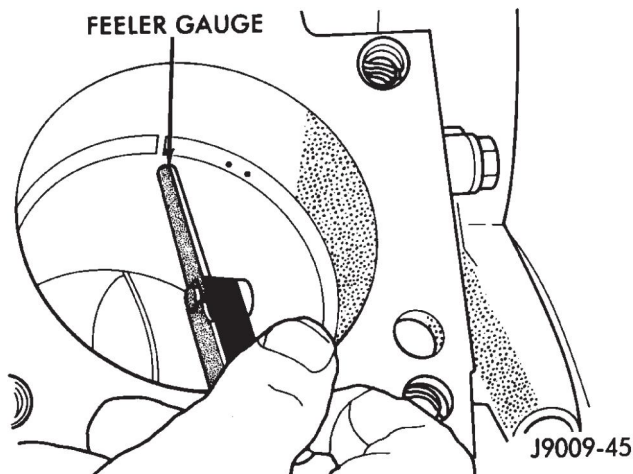
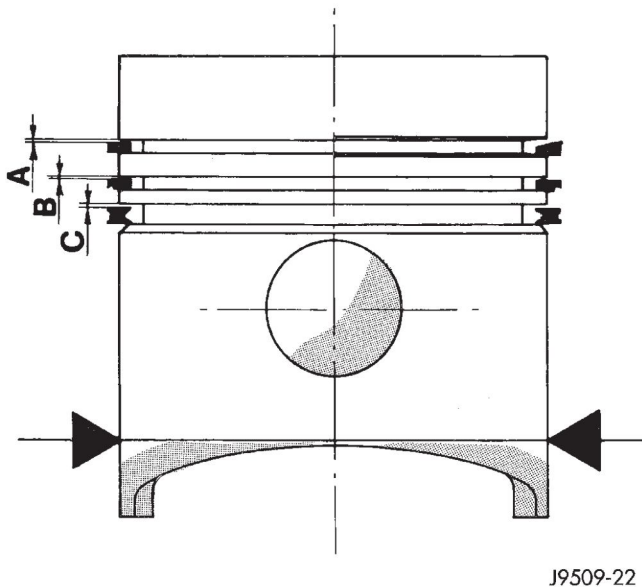

Fig. 12 Ring Gap Measurement
Fig. 13 Piston Ring Side Clearance
(1) Wipe cylinder bore clean. Insert ring and push down with piston to ensure it is square in bore. The ring gap measurement must be made with the ring positioning at least 12 mm (0.50 in.) from bottom of cylinder bore (Fig. 12). Check gap with feeler gauge. Top compression ring gap .25 to .50mm (.0098 to .0196 in.). Second compression ring gap .25 to .35mm (.0098 to .0137 in.). Oil control ring gap .25 to .58mm (.0098 to .0228 in.).
(2) If ring gaps exceed dimension given, new rings or cylinder liners must be fitted. Keep piston rings in piston sets.
(3) Check piston ring to groove clearance (Fig. 13). Top compression ring gap .08 to .130mm (.0031 to .0051 in.). Second compression ring gap .070 to .102mm (.0027 to .0040 in.). Oil control ring gap .040 to .072mm (.0015 to .0028 in.).